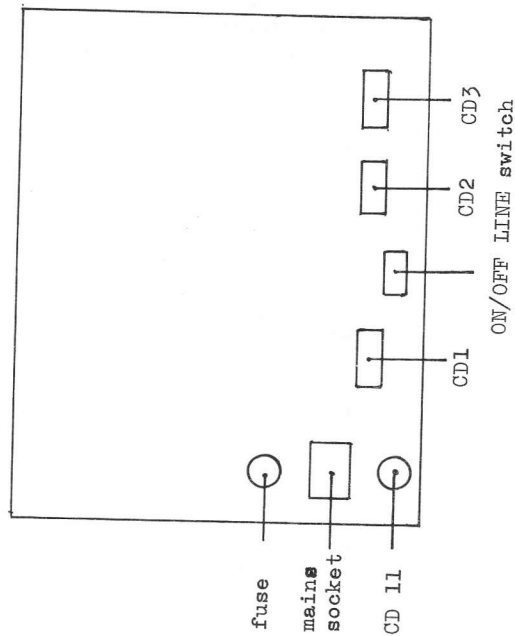

FIG. 11. INTERFACE CONNECTORS
- Step 1 Connect mains cable to the mains connector on the back of the display unit (see Fig. 11), and to the power socket
- Step 2 Connect the keyboard interface cable to connector CD3 (see Fig. 11), and tighten the two jack screws
- Step 5 Connect the line interface cable to connector CD1 (see Fig. 11) and tighten the two jack screw